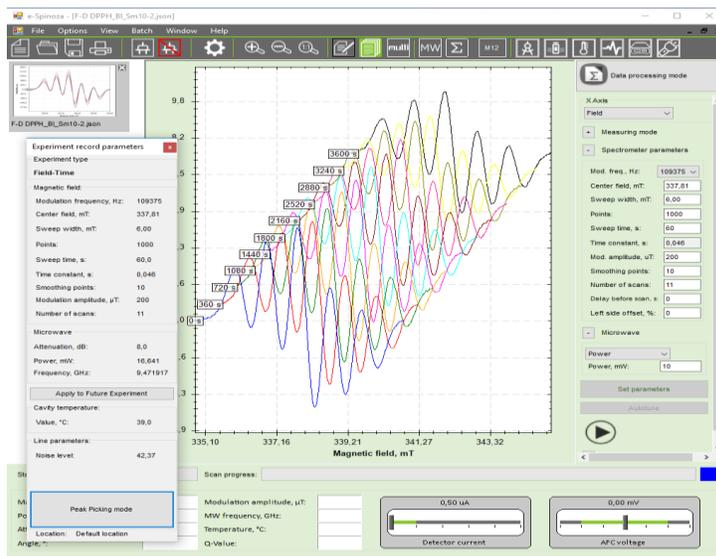

Figure 6.16 – Field-Delay experiment
- Press the button  to start the scanning process with the above requirements (Fig.6.16).